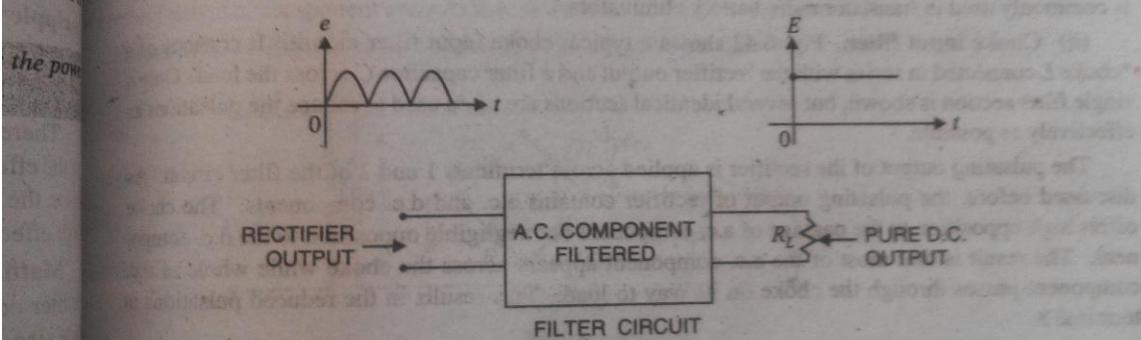

Fig. 6.40
Obviously, a filter circuit should be installed between the rectifier and the load as shown in Fig. 6.40. A filter circuit is generally a combination of inductors (L) and capacitors (C). The filtering action of L and C depends upon the basic electrical principles. A capacitor passes a.c. readily but does not **pass d.c. at all. On the other hand, an inductor † opposes a.c. but allows d.c. to pass through it. It then becomes clear that suitable network of L and C can effectively remove the a.c. component, allowing the d.c. component to reach the load.